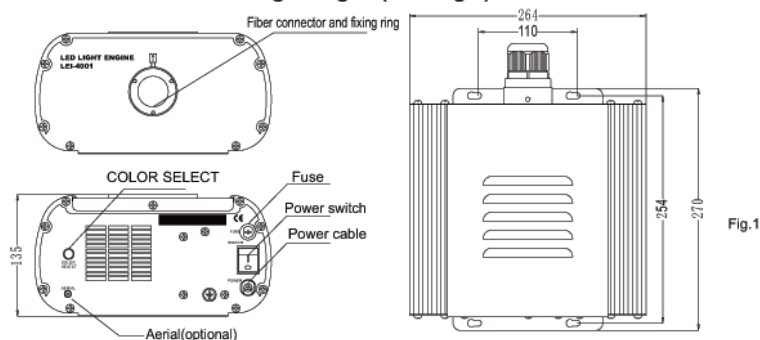

Fig.1
C. Installation dimension of light engine(see Fig.1):
Control the rolling or stop of color wheel through the "color select" button to make it change color automatically or fixed on one color. (see Fig.1 above)